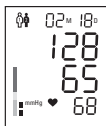

Fig.6
4.The air in the cuff will deflate quickly and the blood pressure reading and pulse reading will show in the display. Then the icon ‘👤’ will flash to remind the user to record the reading as in Fig.6.